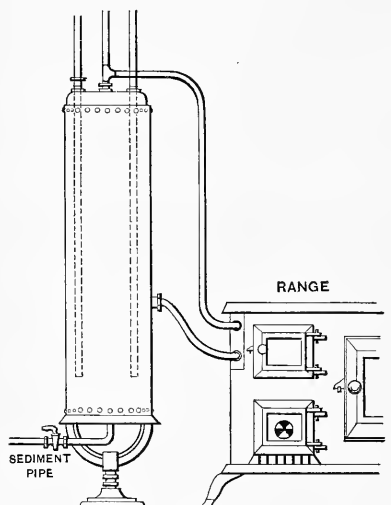

Fig. 1.—Side and Top Connections.
*From C. S., Bridgewater, Mass.*—Recent discussions in *The Metal Worker* on the subject of range boiler connections remind me of some of my experiences in that line that may be of interest. Some years ago we put in a portable range to take the place of a brick set range that was connected with a 50-gallon boiler. The boiler was set very low, and had been very noisy, and the owner wanted it made all right. As it could not be raised I used the bottom connection for a sediment cock only and connected the lower pipe to the range at the side and the hot water pipe at the top of the boiler, as shown in Fig. 1, and the result was satisfactory.